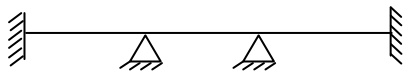

fig.1
- Q.1** (a) Find out SI and KI of the structures shown in the fig.1 **04**